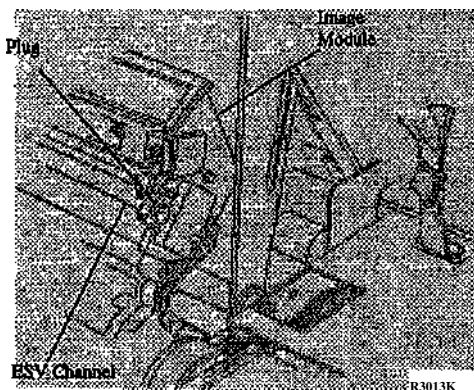

Figure 2. Removing the Plug
- b. (Figure 2): Remove the plug from the side of the Image Module.